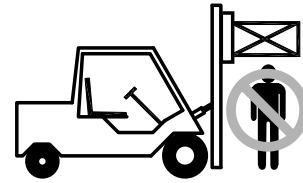

Figure 2
- Never allow anyone under a load or under the carriage. (Figure 2)